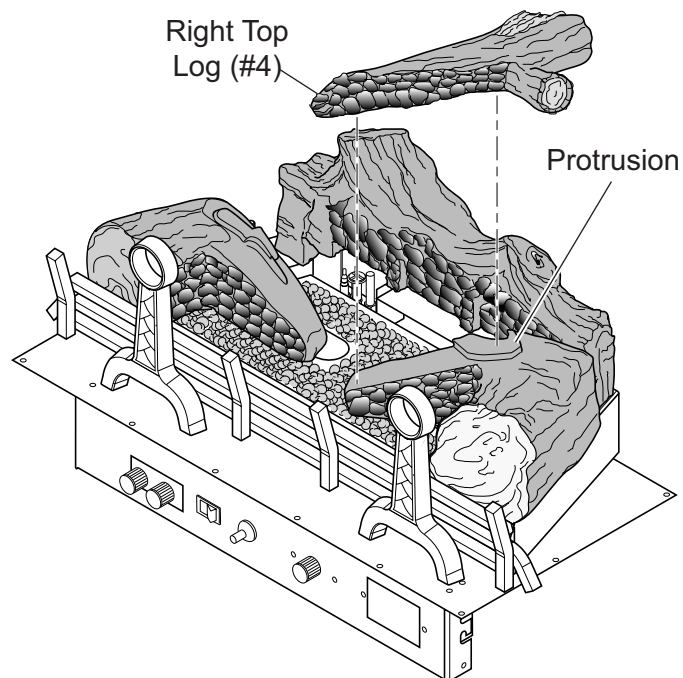

Figure 49 - Installing Right Top Log (#4)
4. Line up the indentation on bottom of right top log (#4) with protrusion on top of right bottom log. See *Figure 49*.